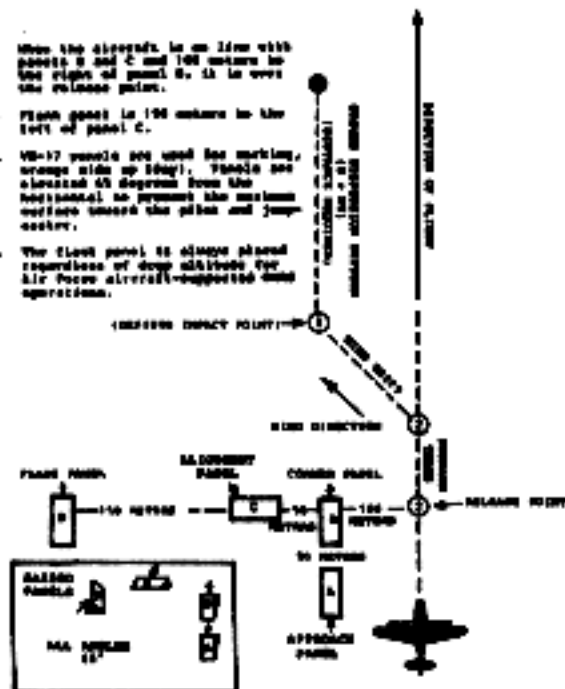

Figure B-16. Inverted L (Day)
(c) Marking the DZ. From the desired impact point (selected by the airborne commander), move into the wind the number of meters calculated using the $D = KAV$ formula. Then, (2) move on a back azimuth of the drop heading the number of meters calculated on the forward throw. This is the (3) release point see figures B-16 and B-17).